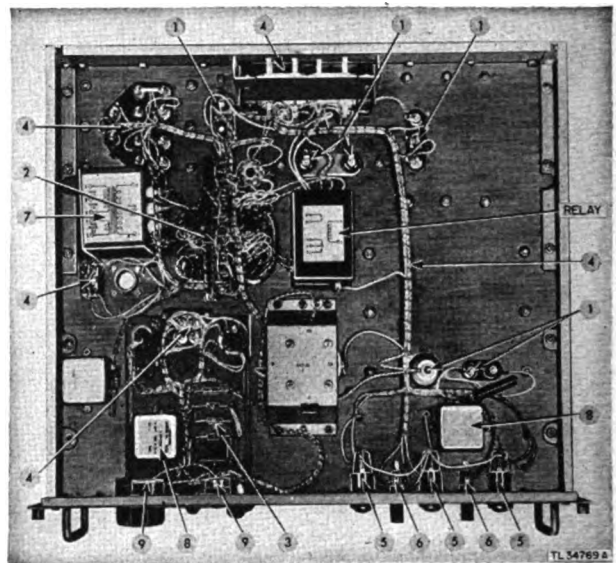

Figure 22. Indicator I-221-A—bottom view.
- (1) Clean entire top of the chassis, paying particular attention to the inter-connector plug and the bushing ③ on the high-voltage transformer, but do not use an abrasive to clean the bushing.
- (2) Clean backs of the potentiometers, but do not turn the control knobs located on the front panel.
- (3) Check the antenna reversing switch for positive action. Tighten the mounting nut if necessary. Return the toggle arm to its original position.
- (4) Check connections on the selsyn transformer for tightness and good soldering.
- (5) Check connector and plug ② and its cable for corrosion and dirt.
- (6) Check wiring and switch connections ⑤ for corrosion and soldering faults.
- (7) Cement the schematic ④ to the chassis if loose, using varnish or mucilage.
- (8) Inspect socket and connections to the tuning eye. Do not remove the latter from its bracket unless it requires replacement.
- ITC. BOTTOM OF CHASSIS (fig. 22).